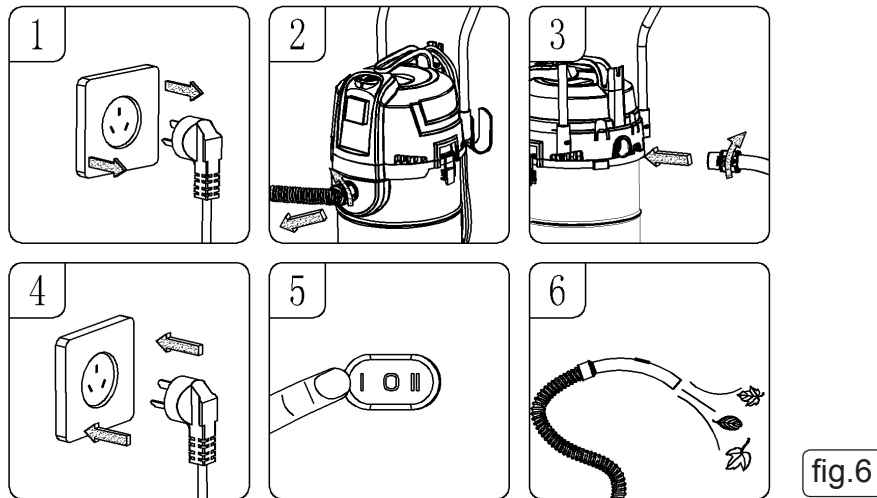

fig.6
5.4. Blower operation. (fig.6)